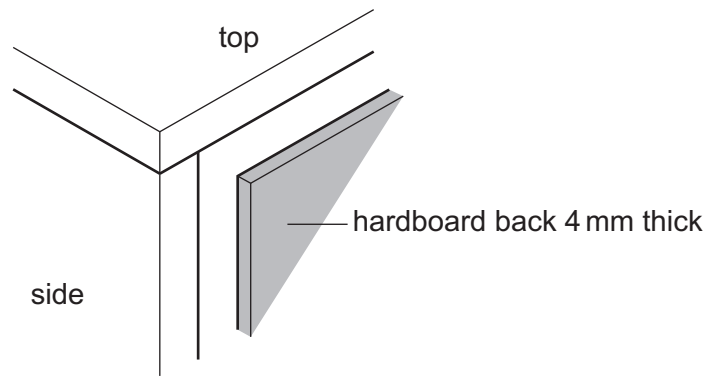

Fig. 11.3
- (g) Fig. 11.3 shows one corner of the back of the cabinet and part of the hardboard back.